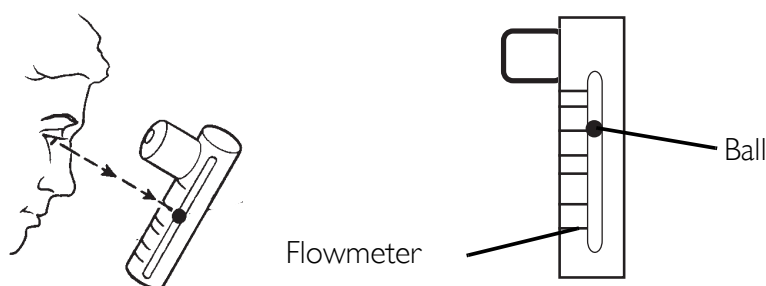

FIGURE 3 Setting The Flowrate On The Pediatric Flowmeter
- ① For this procedure, refer to FIGURE 3.